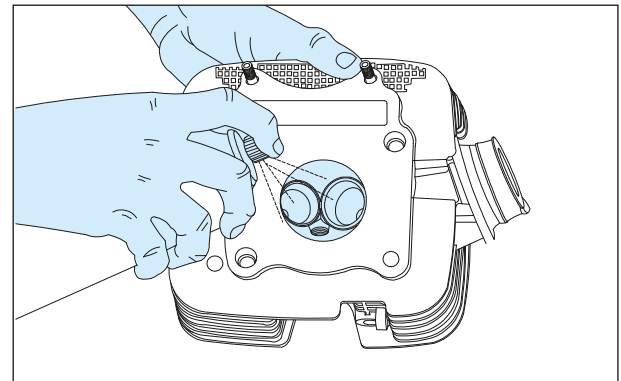

Fig. 3.111
- Decarbonise the combustion chamber of head complete cylinder using suitable decarbonising spray. (Fig. 3.111)